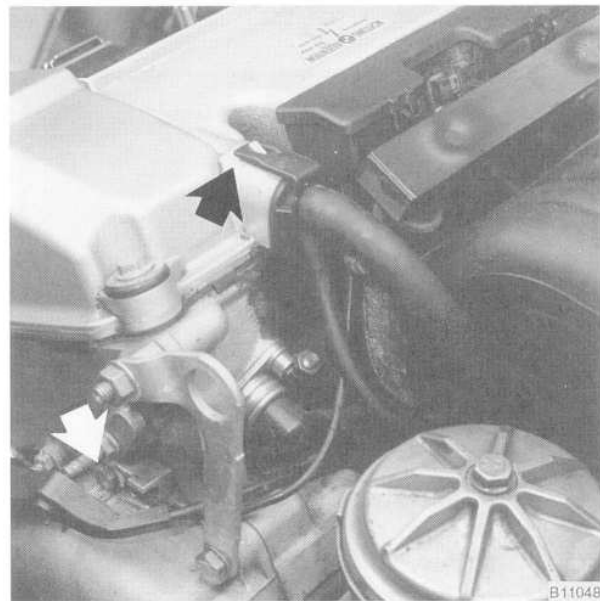

Fig. 9. Crankcase ventilation hose fitting and ground wire (arrows) to be disconnected and removed.
10. Disconnect the crankcase ventilation hose fitting from the cylinder head cover. Remove the wiring cover from the front of the cylinder head and then remove the ground wire(s) shown in Fig. 9.